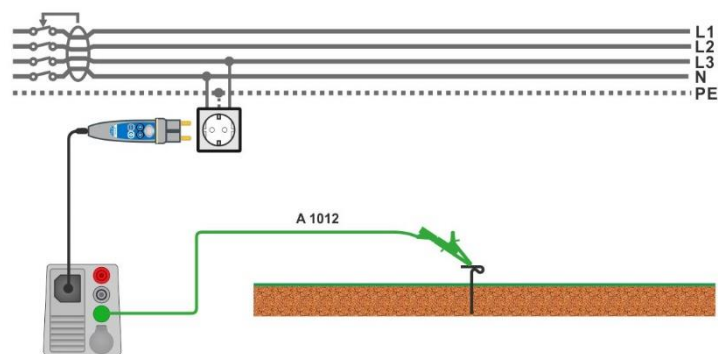

Figure 7.35: Connection for Uc(P) measurement
For connection see *Figure 7.35 Connection for Uc(P) measurement*.
▶ Connect test lead to P/S terminal and external earthed point (optional, see Figure 7.35 ).